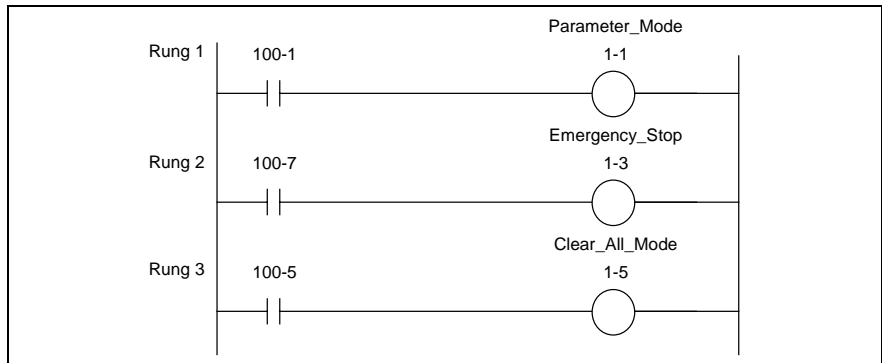
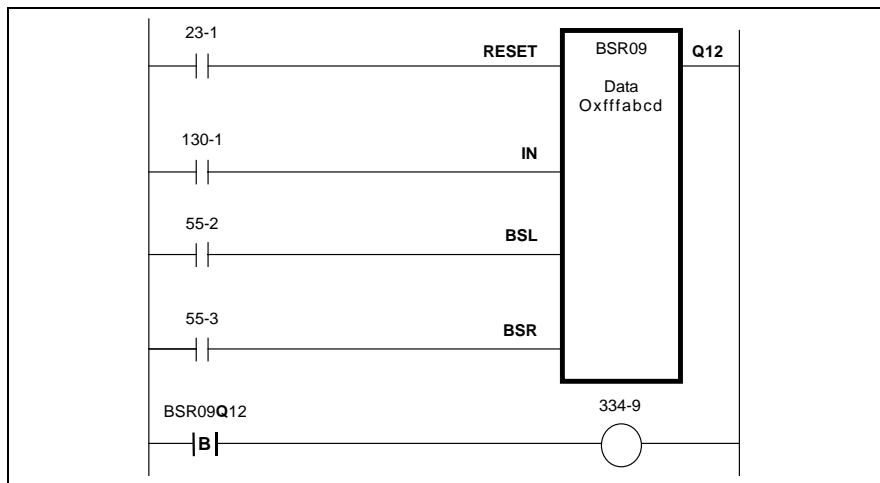
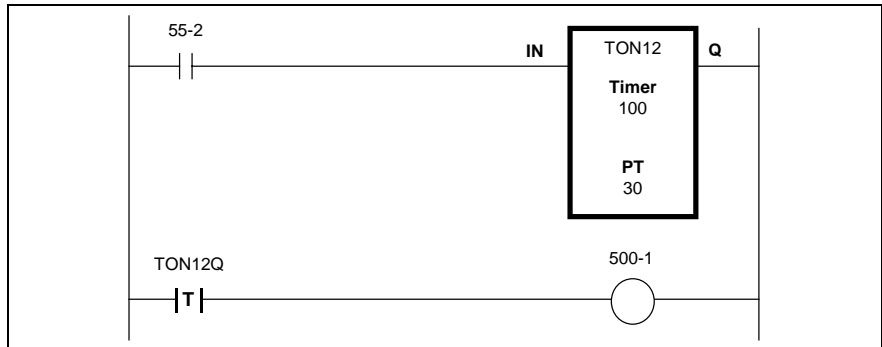
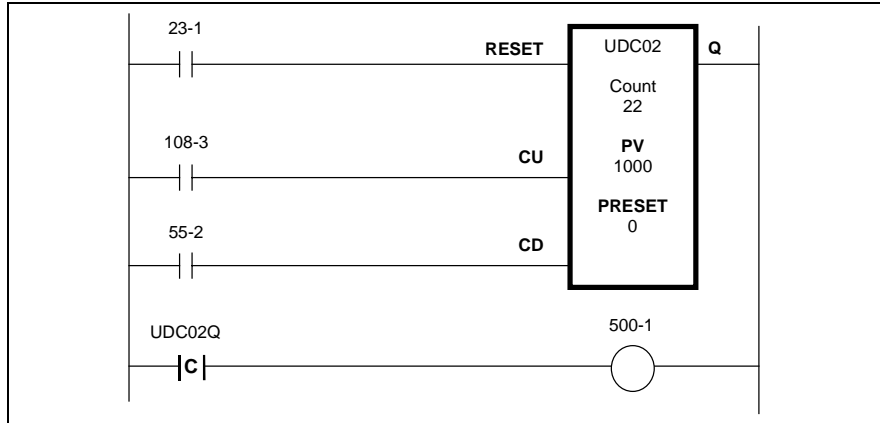

Fig. 7-13: Coil used as a Simple Output Function
Fig. 7-16: Binary Shift Register Example
Fig. 7-17: Timer Example
Fig. 7-18: Counter Example
Fig. 7-13 is an example of a coil being used as a simple output function. Refer to Fig. 7-16, Fig. 7-17 and Fig. 7-18 for examples of a normal coil function complementing a more complex function.
In the counter example in Fig. 7-18, the **Count** value increments by 1 every time contact 108-3 is closed and decrements by 1 every time contact 55-2 is closed. Once the **Count** value is equal to or greater than the **PV** value, contact UDC02Q will close energizing relay coil 500-1. The following table describes a counter's five inputs (RESET, CU, CD, PV, PRESET) and one output contact (Q).